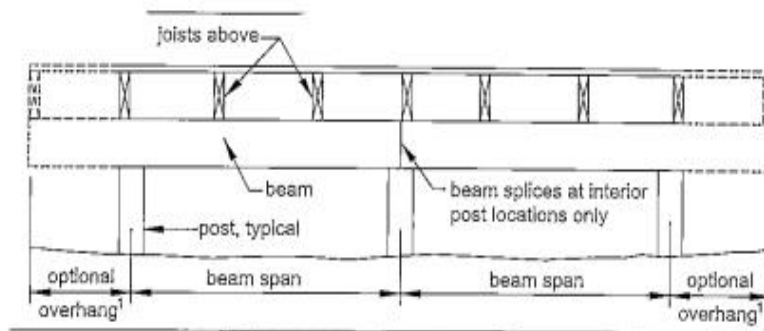

FIGURE 5: BEAM SPAN TYPES
- As shown in FIGURE 5, beam span is measured between the centerlines of two adjacent posts.
- Beams may overhang each end up to one-fourth of the beam span ($0.25 \times \text{beam span}$) as shown in FIGURE 5.